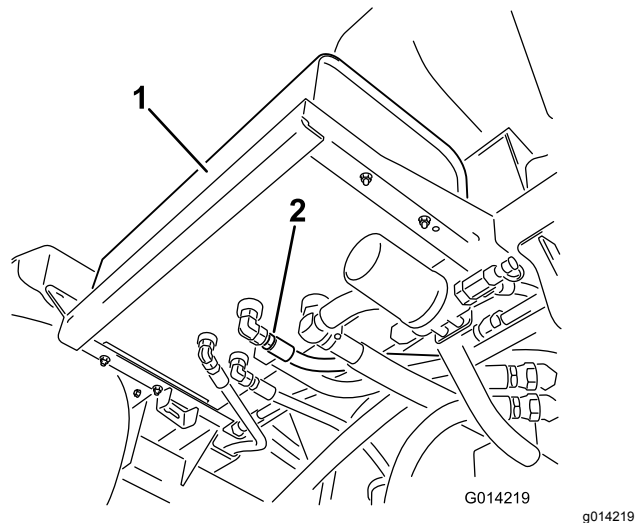

Figure 62
2. Clean the area around one hydraulic hose fitting on the bottom of the hydraulic oil tank (Figure 62).
4. Remove the hose fitting from the tank, allowing the oil to drain into the pan (Figure 62).